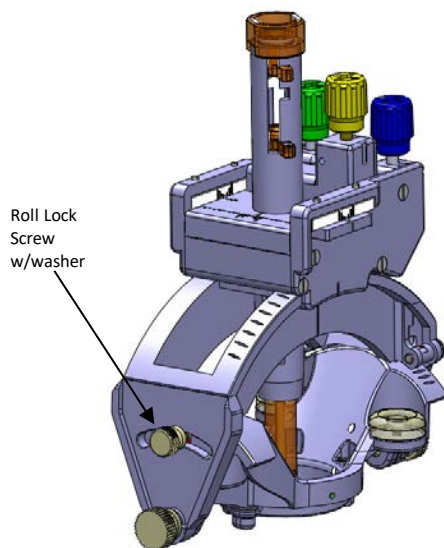

Figure 6: Roll Lock Screw w/washer
10. Remove the Roll Lock Screw w/washer from the SMARTFrame XG package to pre-mount in SMARTFrame XG. Screw in partially to the appropriate location on the SMARTFrame XG. **See Figure 6.** Ensure the Roll Lock Screw w/washer is not tight. This screw will be tightened later in the procedure.
5. The Roll Lock Screw w/washer must be tightened after the final roll adjustment is complete. **See Figure 6.** The Roll Lock Screw w/washer must be loosened, for subsequent roll adjustments.